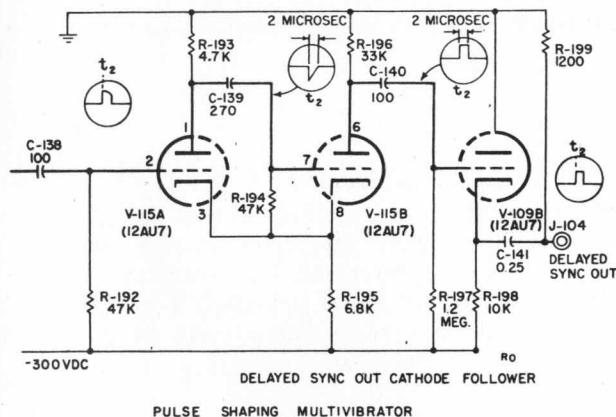

Figure 3-9. Pulse Shaping Multivibrator and Delayed Sync Out Cathode Follower
I. DELAYED OUTPUT PULSE SHAPER AND CATHODE FOLLOWER - Figure 3-9, the delayed output shaper, is a multivibrator comprised of the two triode sections of the type 5814 tube